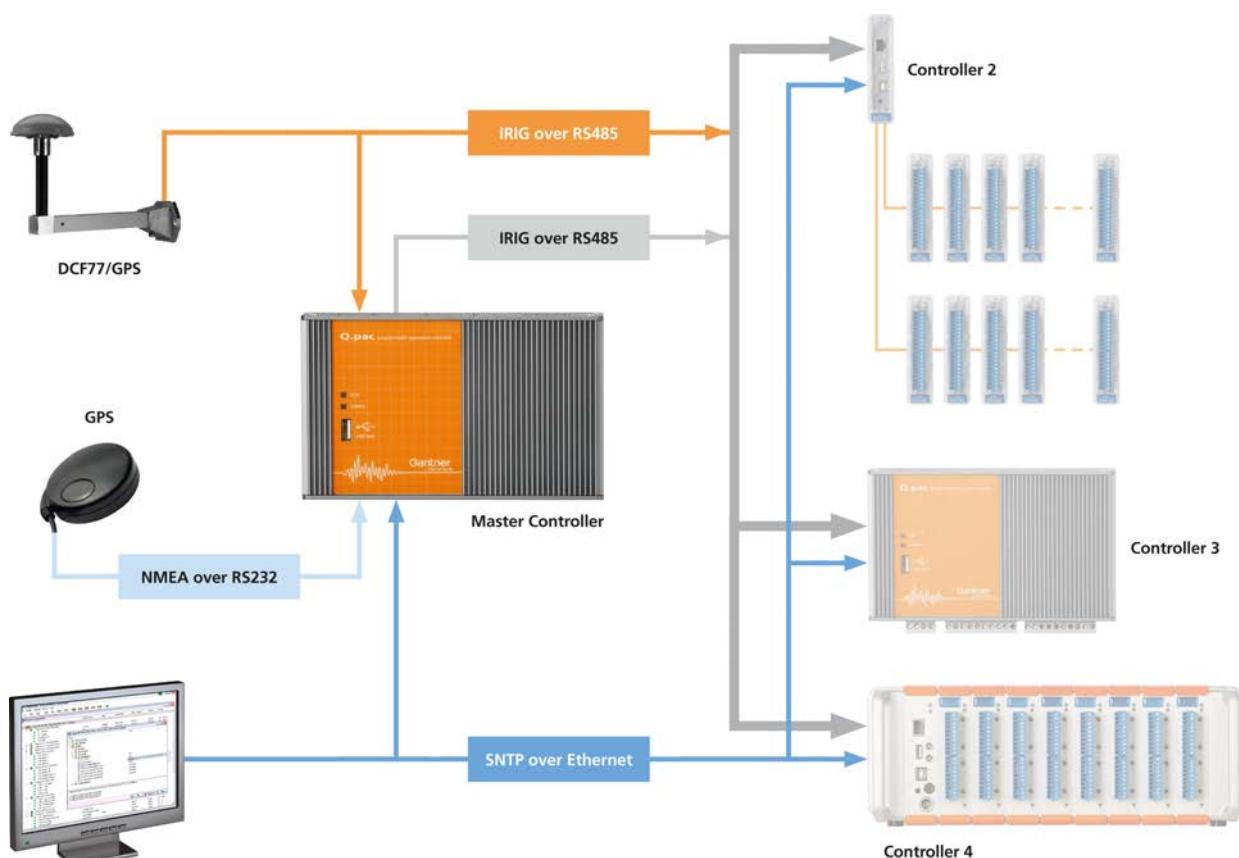

Fig. 4-13 Possible types of time synchronization.
You have various methods of obtaining synchronization, even with several *systems* (refer also to Fig. 4-13 on page 40):
1. Use the time signal in the Q.pac Test Controllers based on the IRIG standard (Inter Range Instrumentation Group) to synchronize all other Test Controllers to one master controller. The master controller (first device in the chain of devices) uses its internal clock for the date/time stamp (gray path in Fig. 4-13). For this type of synchronization you must lay synchronization lines between the Test Controllers; the maximum length of all lines together is 400m. The master controller transfers the time stamp through an RS-485 link to the other Test Controllers. This method achieves the best time synchronization with the smallest jitter (approx. $\pm 2 \mu\text{s}$) between the individual modules, because the time information passes simultaneously to all Test Controllers.
2. You connect a radio receiver for time signals, e.g. for DCF77 which converts the received time signal to IRIG-B, to a Q.pac Test Controller. As master controller this then synchronizes all other Test Controllers using IRIG (orange colored path in Fig. 4-13) as with Variant 1. If it is not possible to connect the individual Test Controllers via synchronization lines or this is not desired, you can also connect a receiver to each Test Controller (Variant 2b).
3. You connect an NMEA-0183 compatible GPS receiver (Global Positioning System) to a Q.pac Test Controller, which then, similar to Variant 1, synchronizes as master controller all other Test Controllers. With this method the time information of the GPS signal is evaluated instead of a pure time signal. In addition you can also process the position details of the GPS receiver in the system and assign the measurements (light blue path in Fig. 4-13). If it is not possible to connect the individual Test Controllers via synchronization lines or this is not desired, you can also connect a receiver to each Test Controller (also to Q.gate) (Variant 3b).
4. You define a PC as an SNTP time server which can distribute the NTP time stamp to all Q.gate or Q.pac Test Controllers (dark blue path in Fig. 4-13).